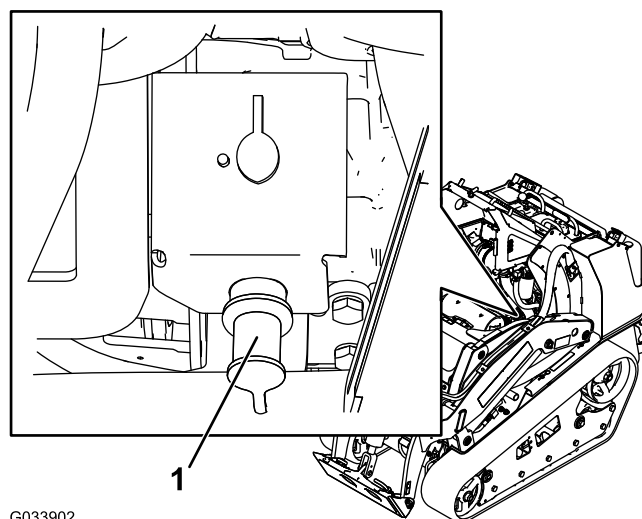

Figure 54
2. Remove the cover from the jump post (Figure 54).
3. Connect an end of the positive (+) jumper cable to the jump post (Figure 54).